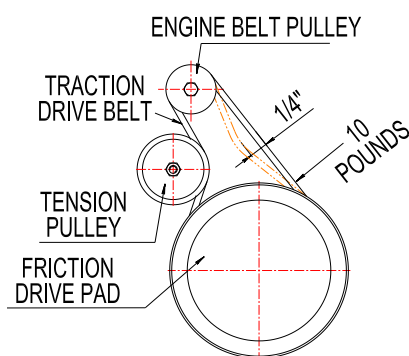

FIG 27
6.10.1 Adjust the belt with 10 pounds of pressure. If the belt moves 1/4", it is all right. If not, you should adjust the belt. (FIG 27)